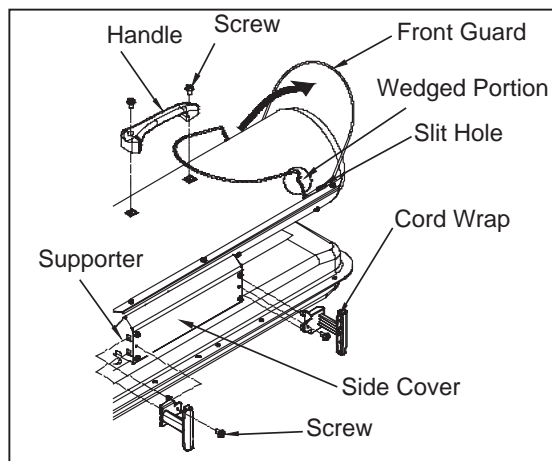

Figure 6. Assembling Handle & Cord Wrap
- 2) Align the holes in the upper housing with two mounting holes on the handle as shown in Figure 6.
- 4) Insert cord wrap into the rectangle holes on the supporter and align the hole on the cord wrap with the mounting hole on the side cover as shown in Figure 6.